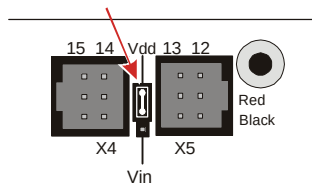

Figure 4-4
Figure 4-4 shows the servo header on the Board of Education. This is where you will plug in your servo. This board features a jumper that you can use to connect the servo's power supply to either Vin or Vdd. The jumper is the removable black rectangular piece indicated by the arrow between the two servo headers.
- ✓ Verify that the jumper is set to Vdd as shown in Figure 4-4. If it is instead set to Vin, lift the rectangular jumper up off of the pins it is currently on, and then press it on the two pins closest to the Vdd label.